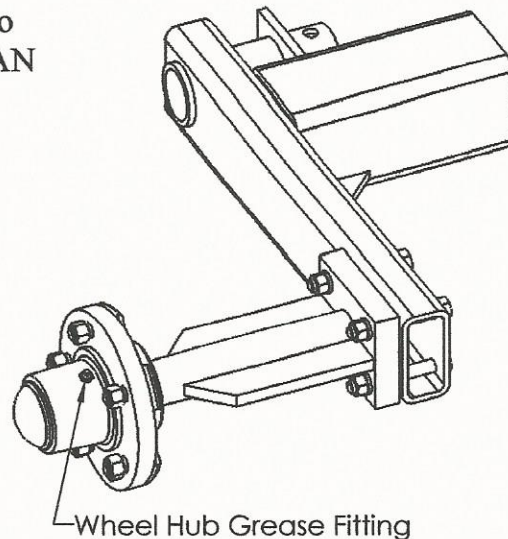

Figure 18
C) Wheel Bearing Adjustment and Lubrication (Refer to Figure 18)